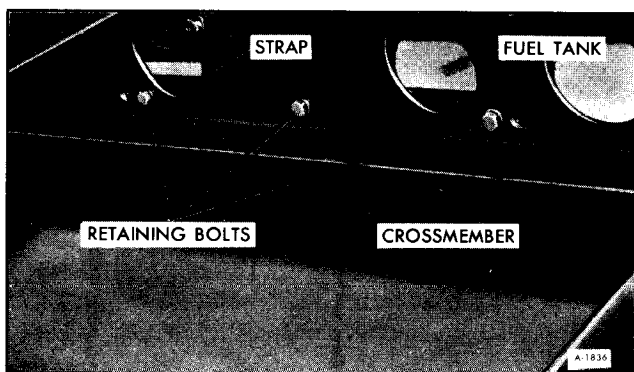

Figure 5-Removing Fuel Tank Strap Bolts
3. Remove 3 bolts from angle at front of tank as shown in Figure 5. If both tanks are to be removed, the forward tank should be completely removed.